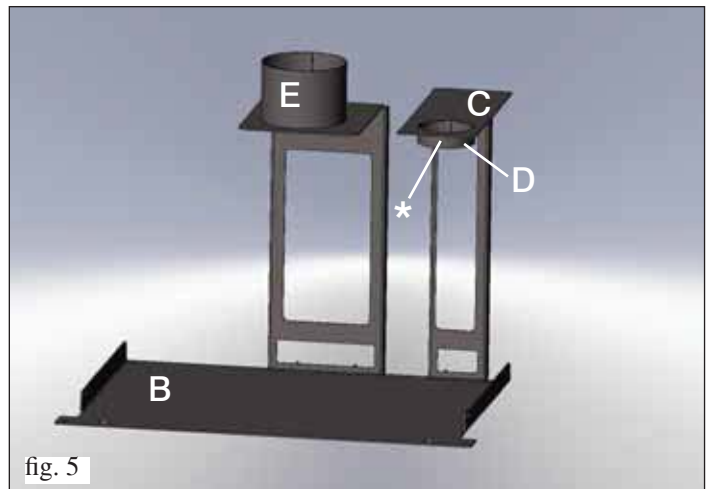

fig. 5
- Cut the tube to size and fit the end of the tube on the centring bracket (E fig. 3 to the side and fig. 5 on pg. 30) and fasten it using the clamps provided.
Assemble the facilitation kit as shown in figure 5.
• Fit the chimney flue on the collar of the bracket (**C**) placing it on the dedicated screws (\*) (fig. 5).
• Fit the pellet loading tube on the collar of the bracket collar (**E** fig. 5 to the side and fig. 3 on pg. 28), securing it with the clamp supplied.